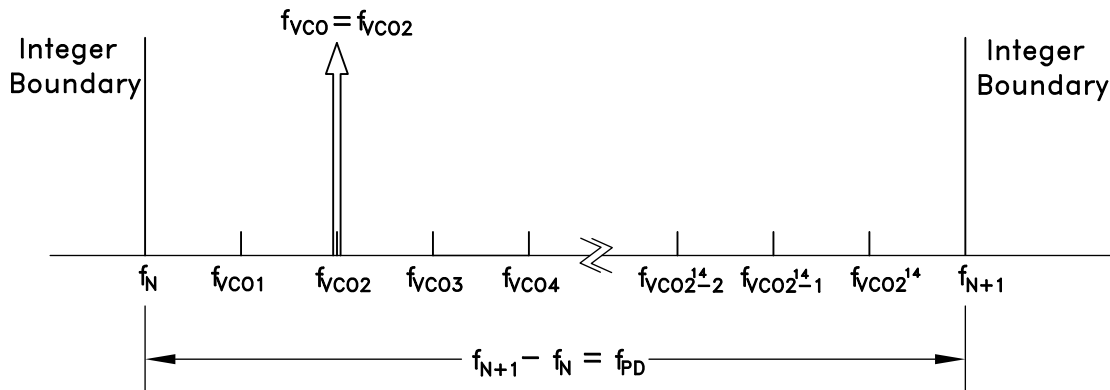

Figure 71. Exact Frequency Tuning
and  $f_{VCOk}$  are the channel step frequencies where  $0 < k < 2^{24}-1$ , As shown in Figure 71.
Some fractional PLLs are able to achieve this by adjusting (shortening) the length of the Phase Accumulator (the denominator or the modulus of the Delta-Sigma modulator) so that the Delta-Sigma modulator phase accumulator repeats at an exact period related to the interval frequency ( $f_{VCOk} - f_{VCO(k-1)}$ ) in Figure 71. Consequently, the shortened accumulator results in more frequent repeating patterns and as a result often leads to spurious emissions at multiples of the repeating pattern period, or at harmonic frequencies of  $f_{VCOk} - f_{VCO(k-1)}$ . For example, in some applications, these intervals might represent the spacing between radio channels, and the spurious would occur at multiples of the channel spacing.
If it is desirable to have multiple, equally spaced, exact frequency channels that fall within the same interval (ie.  $f_N \leq f_{VCO_k} < f_{N+1}$ ) where  $f_{VCO_k}$  is shown in Figure 71 and  $1 \leq k \leq 2^4$ , it is possible to maintain the same integer-N (Reg 03h) and exact frequency register (Reg 0Ch) settings and only update the fractional register (Reg 04h) setting. The Exact Frequency Channel Mode is possible if EQ 16 is satisfied for at least two equally spaced adjacent frequency channels, i.e. the channel step size.
To configure the HMC1190ALP6NE for Exact Frequency Channel Mode, initially and only at the beginning, integer (Reg 03h) and exact frequency (Reg 0Ch) registers need to be programmed for the smallest  $f_{VCO}$  frequency ( $f_{VCO1}$  in Figure 71), as follows:
1. Calculate and program the integer register setting  $\text{Reg 03h} = N_{INT} = \text{floor}(f_{VCO1}/f_{PD})$ , where  $f_{VCO1}$  is shown in Figure 71 and corresponds to minimum channel VCO frequency. Then the lower integer boundary frequency is given by  $f_N = N_{INT} \cdot f_{PD}$ .
$\text{Reg04h} = N_{FRAC} = \text{ceil}\left(\frac{2^{24}(f_{VCO_k} - f_N)}{f_{PD}}\right)$  where  $f_N = \text{floor}(f_{VCO1}/f_{PD})$ , and  $f_{VCO1}$ , as shown in Figure 71, represents the smallest channel VCO frequency that is greater than  $f_N$ .
4. To change from channel 1 ( $f_{VCO1} = 2800.2$  MHz) to channel 2 ( $f_{VCO2} = 2800.3$  MHz), only Reg 04h needs to be programmed, as long as all of the desired exact frequencies  $f_{VCOk}$  (Figure 71) fall between the same integer-N boundaries ( $f_N < f_{VCOk} < f_{N+1}$ ). In that case